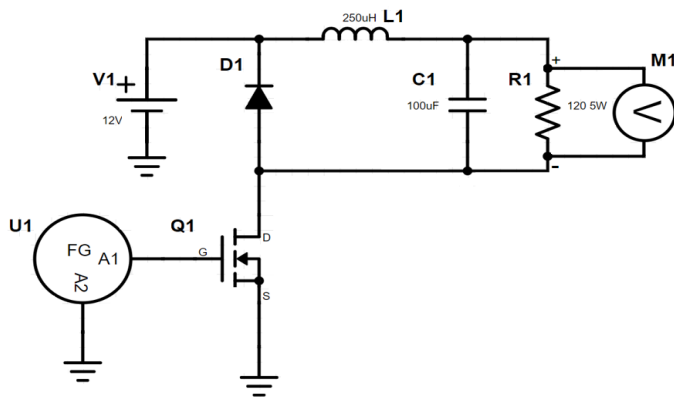

Figure 31
1. Make connections according to Fig.31
2. The function generator (FG) has the positive lead (A1) connected to the MOSFET gate G